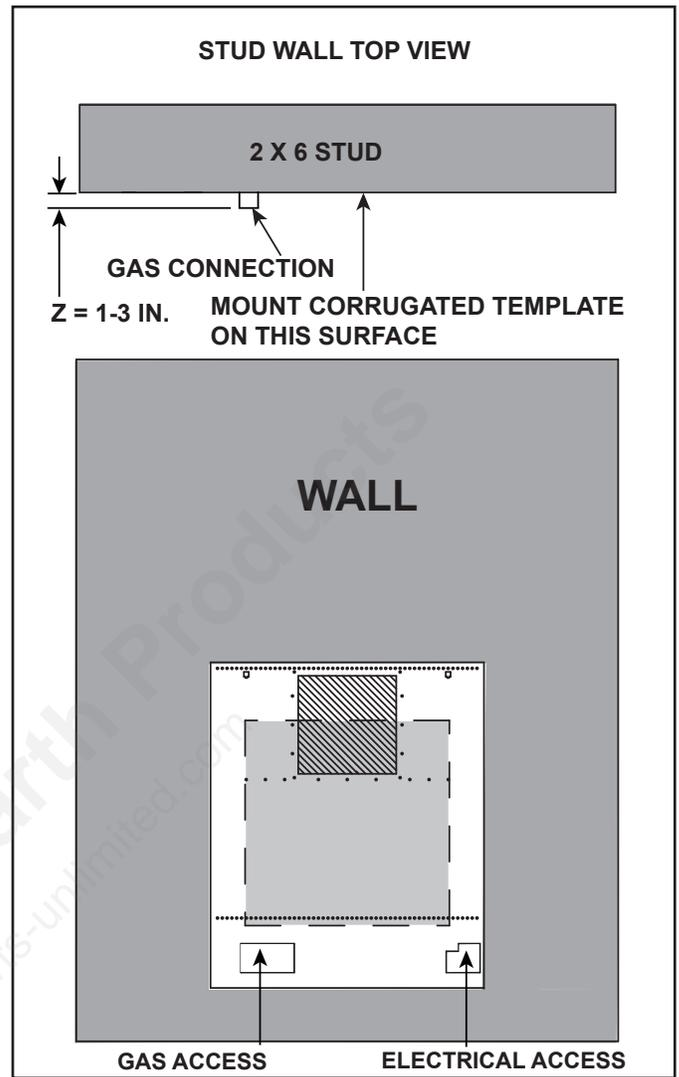

Figure 6.3 Hard-Piped Gas Line Termination and Electrical Service
**Note:** Hard-piped gas connections must be terminated with a specific "Z" dimension depth. See references to "Z" dimension in Figure 6.3. Terminating the Hard-piped gas connection with the proper "Z" dimension will simplify the process of connecting the gas to the appliance.